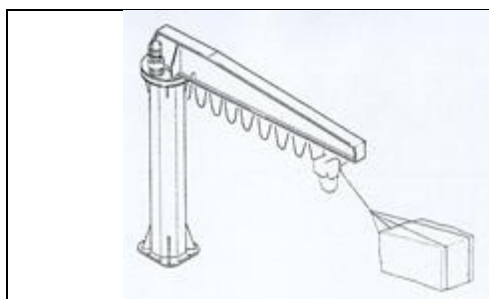

fig. 55
- **During lifting manoeuvres**, the operator must avoid putting the hook on the ground or on the loads to lift, to prevent the chain from shifting. The operator must absolutely avoid making oblique pulls which are always dangerous and hard to control (fig. 55).